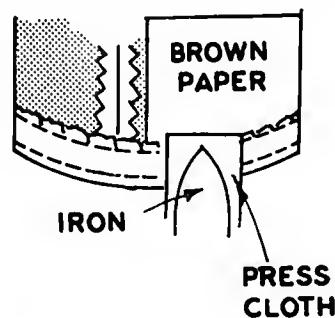

Fig. 307. Removing fullness.
- A. Run a machine basting or small running stitch  $\frac{1}{4}$  in. from the cut edge of the hem. Pull up the thread so the hem falls fairly flat in even gathers between the seams (Fig. 307).
B. In wool, shrink out the fullness with steam, gliding the iron from the fold inward. Use a piece of brown paper under the hem allowance while shrinking and pressing to prevent imprints (Fig. 307).